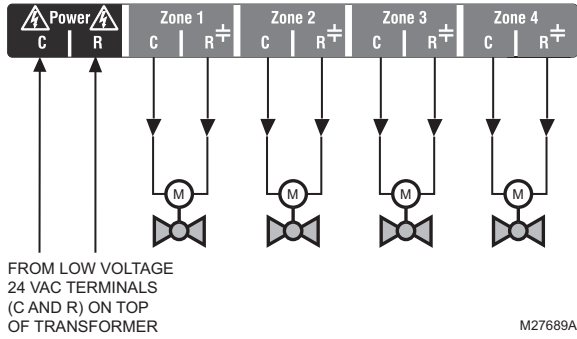

Fig. 12. Wiring an AQ15540B Zoning Module for use with low voltage zone valves without end switches.
- Low voltage zone valves without end switches: Using Fig. 12 as a guide, run jumper wires from the R and C terminals on the top left of the AQ25A's transformer through the wiring channel across the top of the Control Panel, down through the wiring channel on the right side of the panel and over to the R and C terminals on the bottom of the Zoning Module